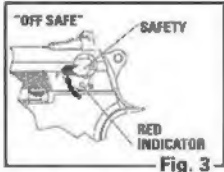

Fig. 3
- Rotate the safety lever up to the horizontal position exposing the RED indicator. (Fig. 3)